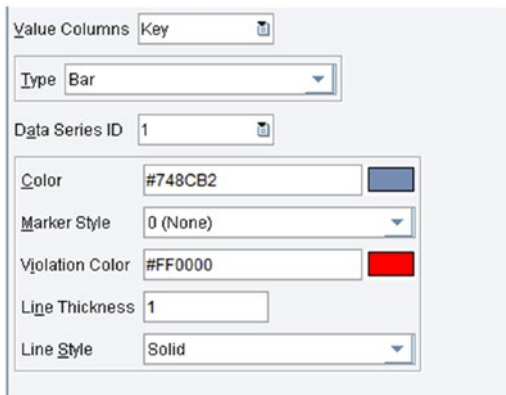

Figure 7-43. *i5Chart Y axis configuration*
- *i5Chart Y-Axis*: The Y-axis tab configures parameters associated with the Y-axis (the vertical axis). See Figure 7-43.